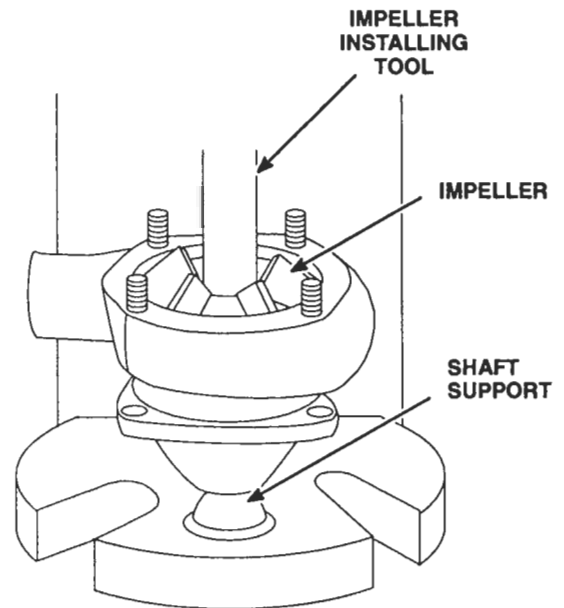

Figure 4. Installing Water Pump Impeller
7. Invert the pump. With the impeller end of the shaft properly supported on the arbor press, press the drive coupling onto the shaft until it is flush with the end of the shaft. When installed, the drive coupling must hold 30 lb-ft (41 N·m) minimum torque (Figure 4.)